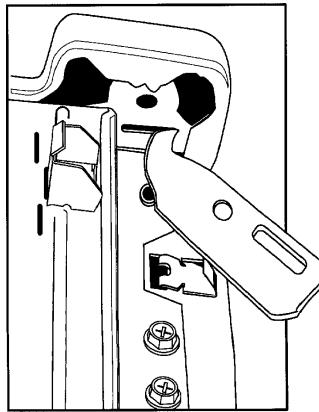

Figure 5-6
- 4 To remove the hold down brackets, swing the bracket to the outside to unhook the bracket from the slot in the top cover lip (*Figure 5-6*).